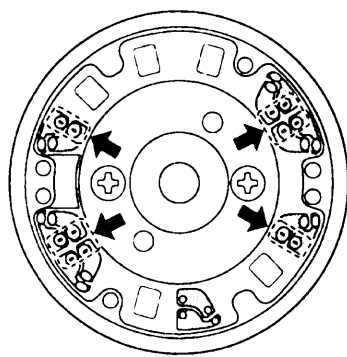

Fig 1.
- 1: Unsolder the fourteen relay leads and remove the two upper drum fixing screws as shown in Fig.1.